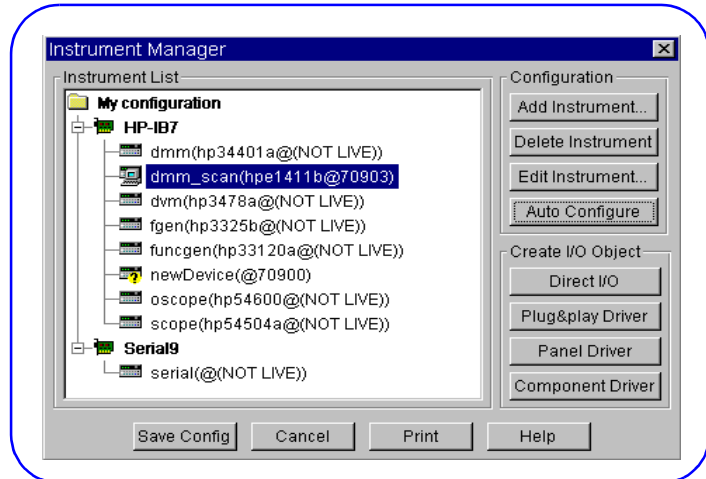

Figure 34. Typical HP VEE Instrument Manager Display
- 5 Click OK to send *IDN? to the HP E1411B. If the query is successful, instrument communication is verified and the instrument model number (hpe1411b) appears (see Figure 34).